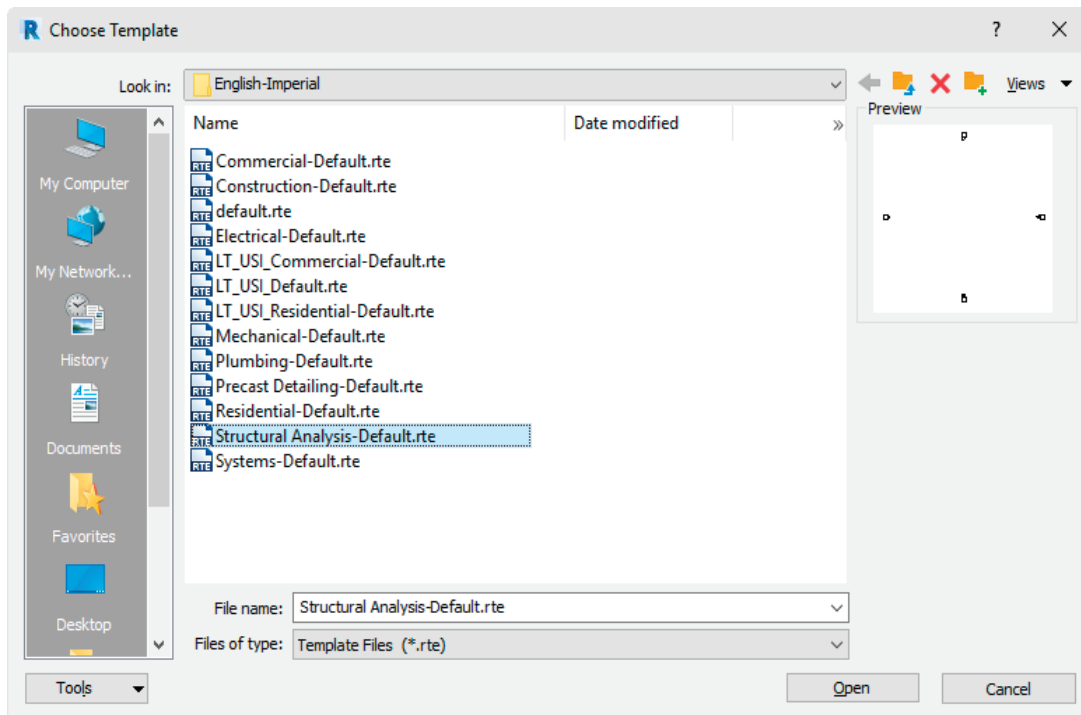

Figure 2-32 The Choose Template dialog box
2. In the **Choose Template** dialog box, the template file named **Structural Analysis-Default.rte**, as shown in Figure 2-32, is selected as the default template file in the **English-Imperial** folder. In **English-Metric** folder, default template file is **Structural Analysis-DefaultMetric.rte**. Choose the **Open** button to assign the selected template file to the **New Project** dialog box.